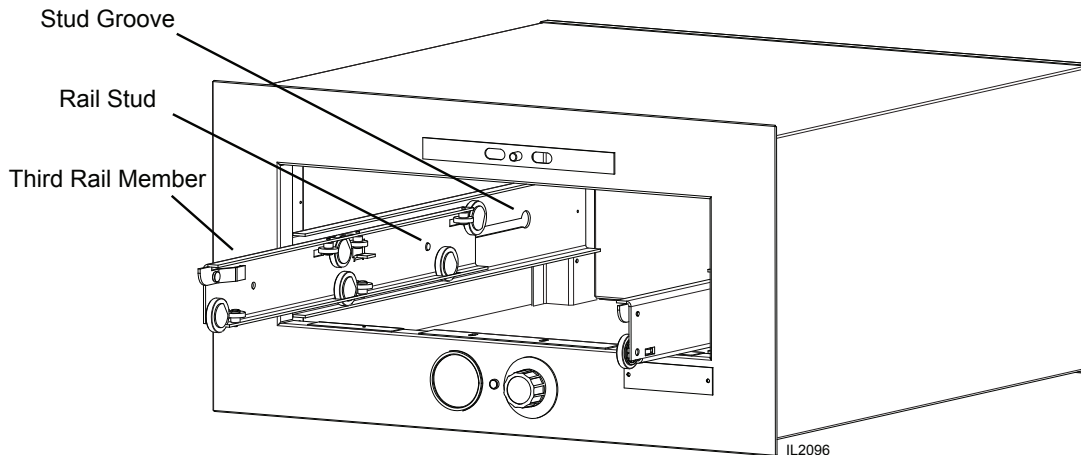

Fig. 3-5, Third Rail Removal
- c. The third rail members ride in channels welded to the interior sides of the unit. Remove them by pushing back as far as possible, grasping the member and tilting it inward from the top. (Fig 3-5).